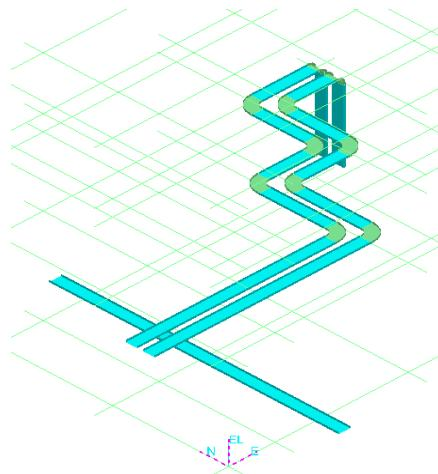

Figure 66: Routed Cableway
3. Start routing the cableway to the south direction about **50 ft**, as shown in Figure 66.